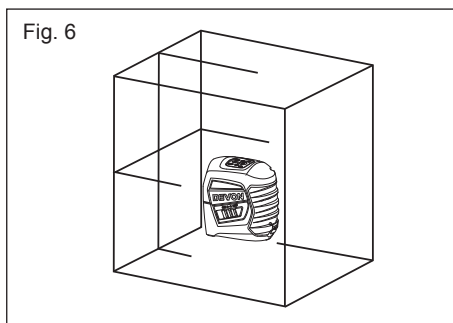

Fig. 7
2. Press the key to close the vertical laser(Fig.7);